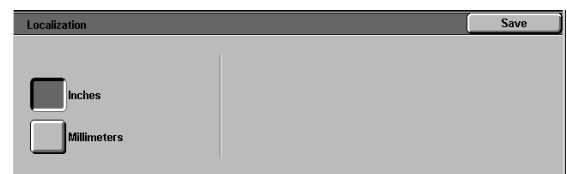

Figure 10: Localization screen
- 2 Review the localization setting. Touch the **Change Settings** button to display the Localization screen. See Figure 10.